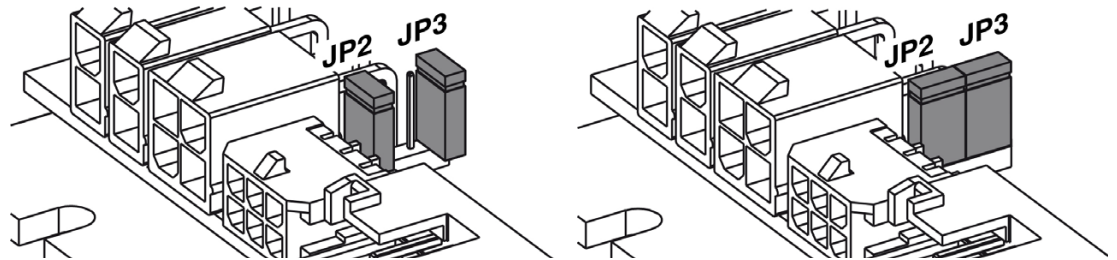

Figure 4-10 Jumpers JP2/JP3 – open (left) / closed (right)
- 2) Set jumpers JP2 and JP3 to “closed” position (→Figure 4-10, right).